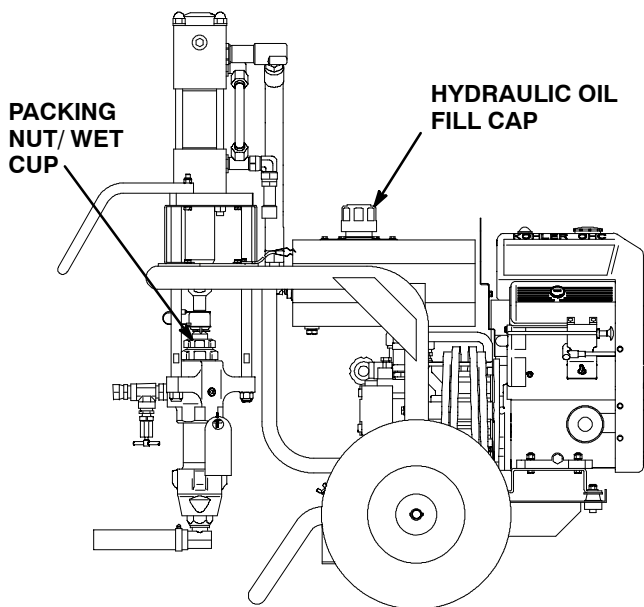

Fig 2 7871b
- Fill the Packing Nut/Wet Cup** 1/3 full with Graco Throat Seal Liquid (TSL), supplied. See Fig. 2.
- a. Unscrew the hydraulic oil fill cap. See Fig 2. The dipstick is attached to the cap. The oil should be up to the full line on the dipstick.